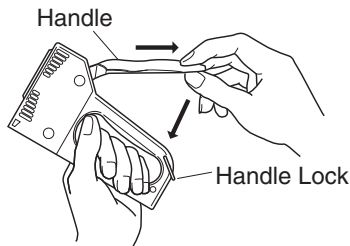

Figure 2
1. Hold tool firmly (see Figure 2).
2. Pull handle out to release, then push handle down (see Figure 2).